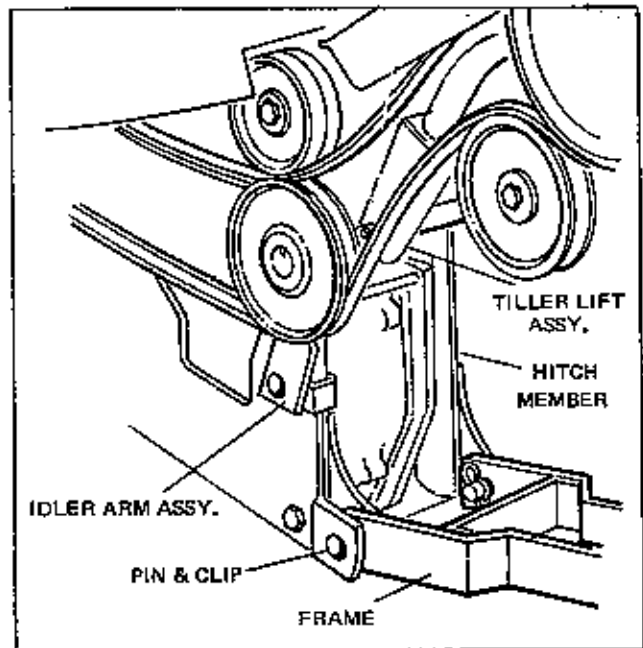

Figure 1
1. Position tiller in back of tractor. Pull the tractor lift lever to the full back position and place the tiller lift bar assembly into the tube of the rear lift assembly on the tractor. Fasten in place with pin and spring clip. (Figure 1).
2. Place tractor lift lever in forward position. Connect the tiller frame assembly to the tractor with 2 pins and 2 spring clips. (Figure 1).
3. Slide idler arm assembly onto rear lift shaft. (Figure 1).
4. Attach lower end of idler arm assembly to hitch member with pin and spring clip. (Figure 1).